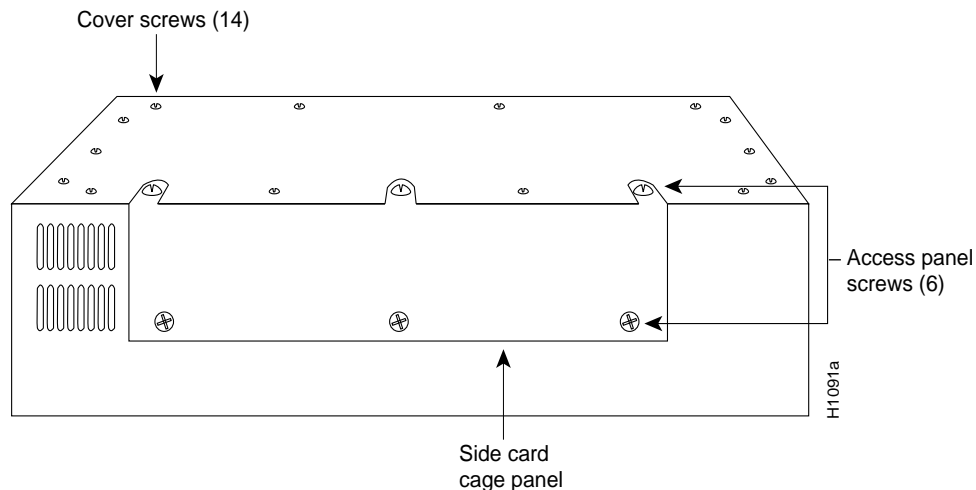

Figure 8 Screw Locations on the MGS Chassis Exterior—Side View
- Step 5** To access the cards in the card cage, locate the three flat-blade screws that secure the card cage access panel. (See Figure 8.) These screws are located on the top of the MGS chassis access panel.
- Step 8** To access the other chassis components, use the No. 1 Phillips screwdriver to remove the 14 screws that secure the top cover of the MGS chassis. (See Figure 8.) Set the top cover aside.